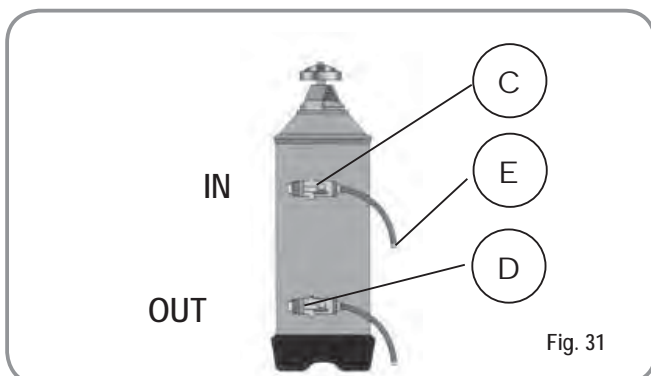

Fig. 31
1) 1) Turn the machine off and place a container large enough to contain at least 5 litres under tube E (Fig. 31).